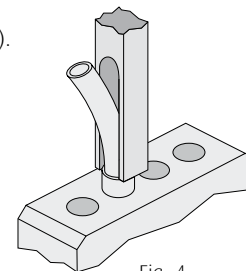

Fig. 4
- ❖ Support the face of the moulding on a solid surface (do not rest the connector on any fitted latches). Place the insertion tool around the wire and onto the back of the crimp (Figure 4). Push firmly – there will be an audible click when the socket is correctly seated.